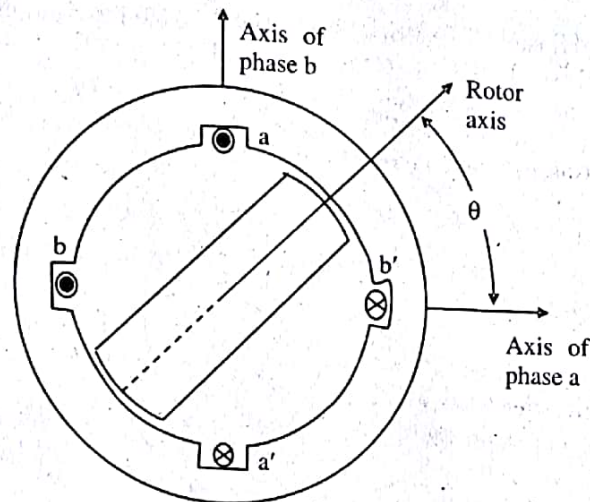

Figure 4.5
- 1) **Singly Salient Construction:** A singly salient construction SRM comprises of a non-salient stator and a salient two pole rotor. The rotor do not have any winding wound over it but the stator have two phase winding as shown in figure 4.5.